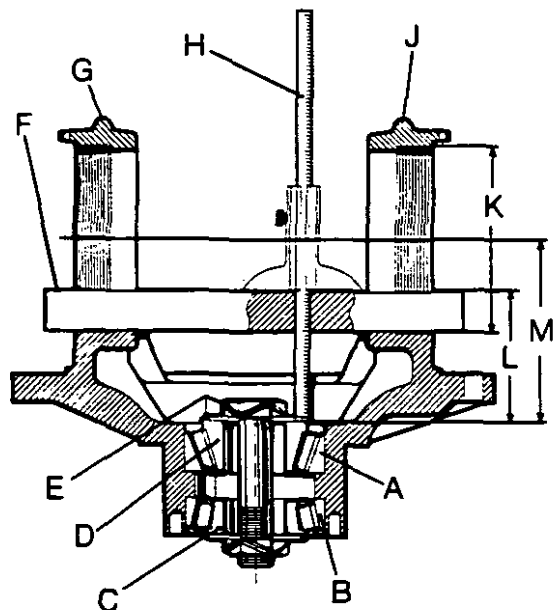

FIGURE 15 SETTING POSITION OF BEVEL PINION
- A clamp E as shown in Figure 15.
- A shaft F as shown in Figure 15.
Setting for the Correct Position: Figure 15